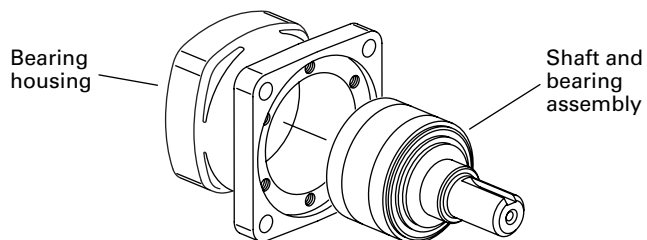

Figure 12
21. Install shaft and bearing assembly in bearing housing (see Figure 12). Do not damage seal in bore of housing. You may need a press to install shaft and bearing assembly.